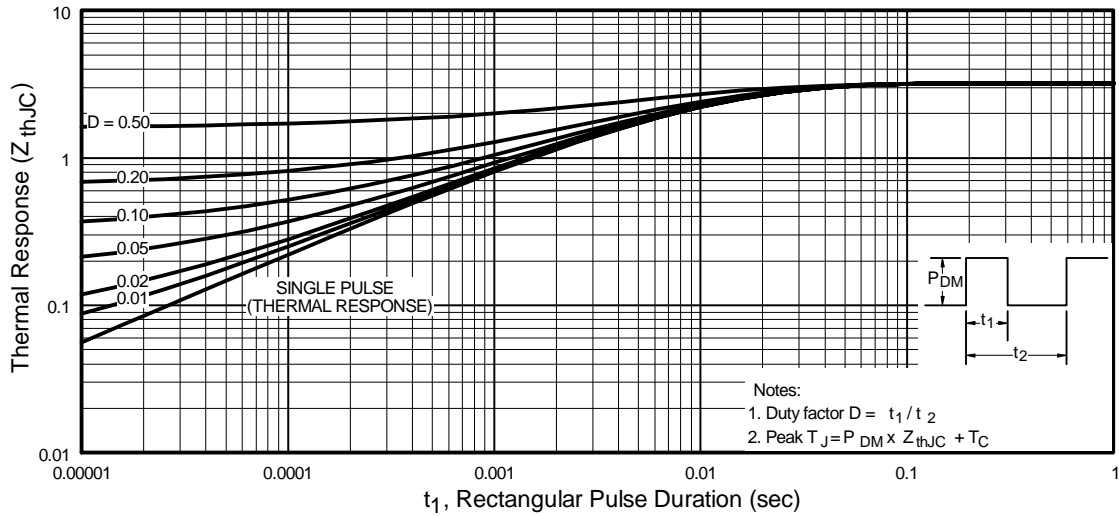

Fig 11. Maximum Effective Transient Thermal Impedance, Junction-to-Case
① Repetitive rating; pulse width limited by max. junction temperature. (See fig. 11)
② Starting $T_J = 25^\circ\text{C}$, $L = 18\text{ mH}$